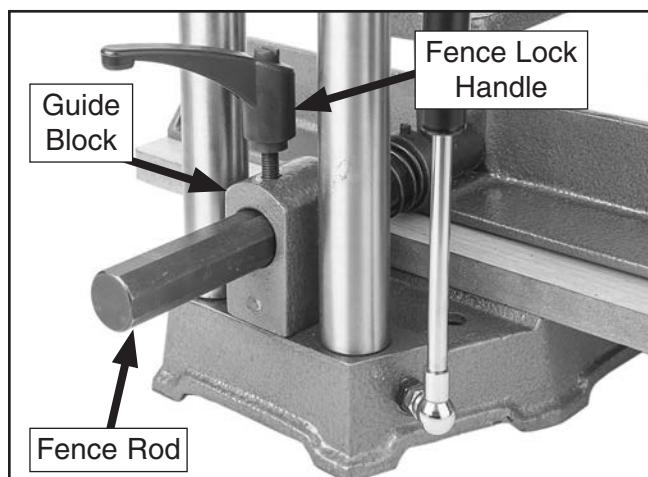

Figure 11. Fence lock handle threaded in hole.
6. Thread fence lock handle into threaded hole (see **Figure 11**) in guide block, and turn clockwise until it *just* touches fence rod. Do not lock yet.